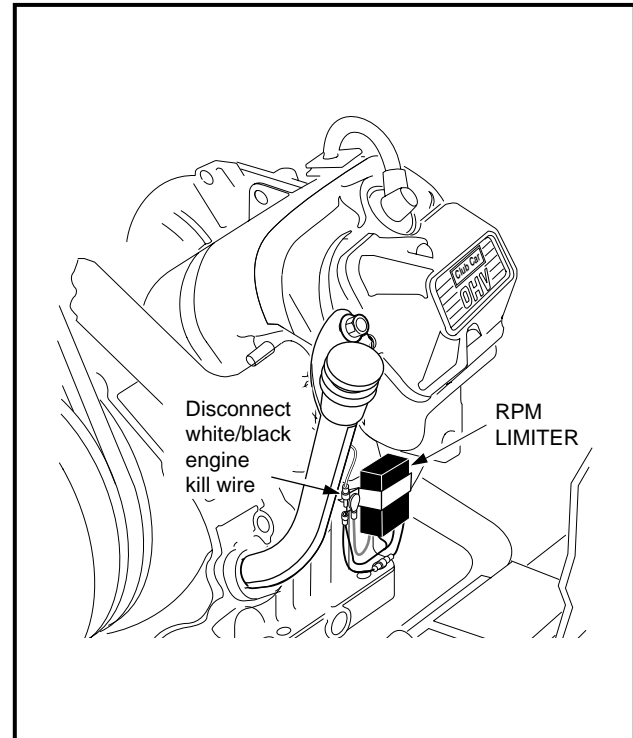

Figure 11-39 Disconnect White/Black Engine Kill Wire
2. Disconnect the engine-kill white/black wire at the bullet connector located next to the RPM limiter (**Figure 11-39, Page 11-34**).
2. Disconnect white/black wire bullet connector located at the engine RPM limiter (**Figure 11-39, Page 11-34**).